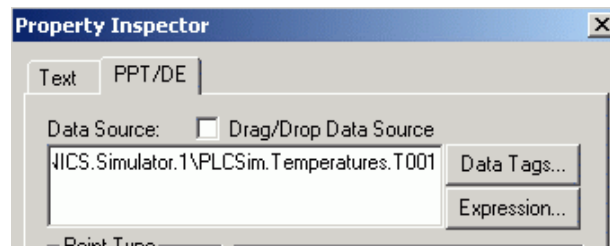

Figure 5.11. Second Process Point's Dynamic Connection
- The process point is inserted into the display, as shown in **Figure 5.10**. Now duplicate the process point either by choosing the **Copy/Paste** or **Duplicate** commands from the **Edit** menu or by holding down the **CTRL** key as you drag the object. Place this second process point below the first one, as shown in **Figure 5.11**.
- To open the **Property Inspector** for an object, simply double-click on the object. You can then make changes to the object's parameters. In this case, open up the **Property Inspector** for the second process point (below the first one), click on the **PPT/DE** tab at the top, click on the **Data Tags** button and select the **Temperatures.T001** OPC tag created in Chapter 4. The dynamic should appear as shown in **Figure 5.11**. Click **OK** to complete this process point configuration.